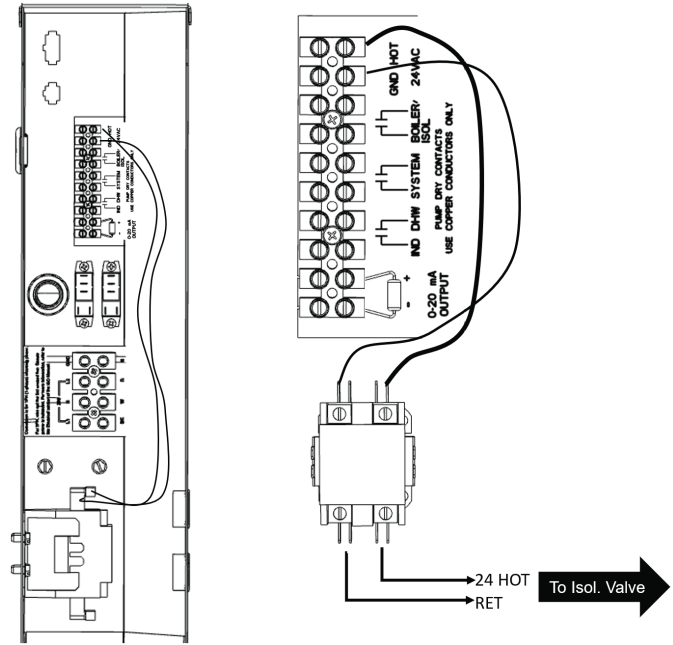

Figure 51. Isolation Valve Wiring Detail
The boiler is equipped with an analog output that is proportional to the firing rate of the boiler. It is configured for 0-10VDC control with the included 500-ohm resistor (see **Figure 51**), intended to be used for an external variable-speed pump as part of a Primary/Secondary piping system. Easy access to the terminals can be found at the rear of the unit in the wiring box. See **Figure 51**.
1. Extend the 24VAC from terminal block to one side of the contactor as shown in **Figure 51**.
2. Complete wiring to isolation valve from the other side of the contactor as shown in **Figure 51**.